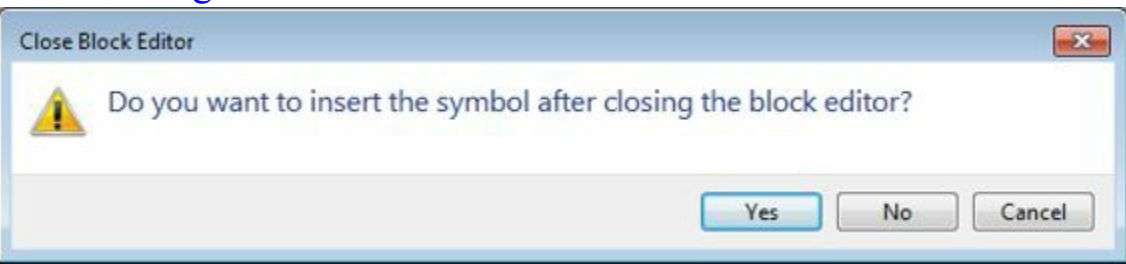

Figure-50. Close Block Editor dialog box
- Click on the **OK** button from the dialog box. The **Close Block Editor** dialog box will be displayed; refer to Figure-50.